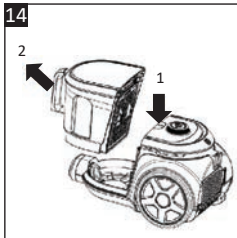

Fig. 14
- Empty the dust bin (11) regularly. Do not allow contents to exceed the “MAX” level mark.
1. Press and hold the dust bin release button (12) with one hand and lift the dust bin by its handle (10) with the other hand to remove it from the vacuum cleaner (Fig. 14).